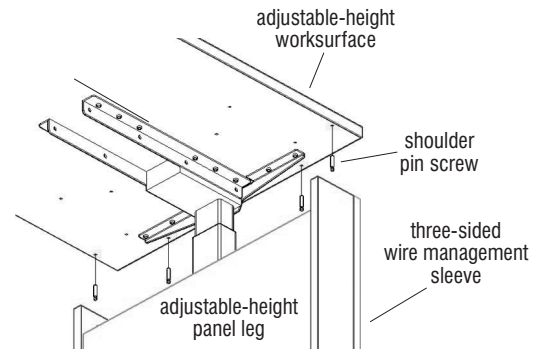

Figure 10
1. Using a Phillips screwdriver, twist four shoulder pin screws into the mounting hole locations on the underside of the worksurface until the first shoulder of the pin screw comes tightly into contact with the worksurface as illustrated (Figure 10).